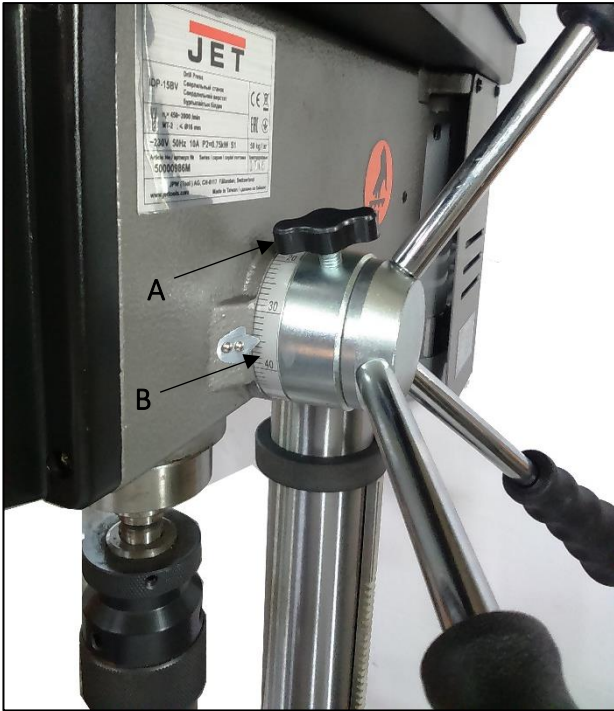

Figure 8-1: depth stop adjustment
With your other hand, advance lock nuts (A, Figure 8-1) on the depth dimension until they are snug to the seat (B).